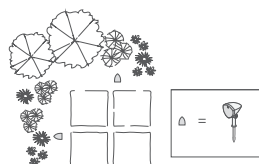

Figure 1
- Used stand-alone, as a stereo or mono outdoor system (see Figure 1)